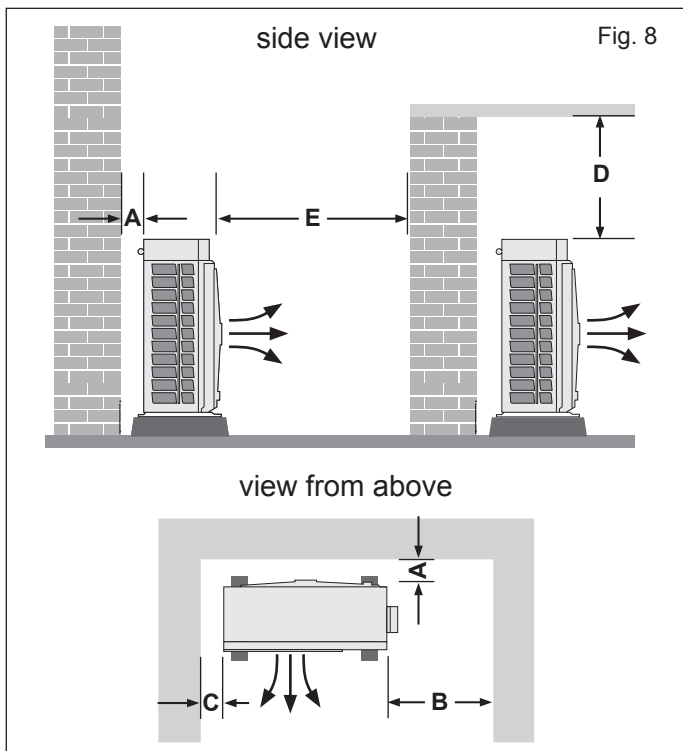

Fig. 8
3.2 CLEARANCE DISTANCES OUTDOOR UNIT (Fig. 8)